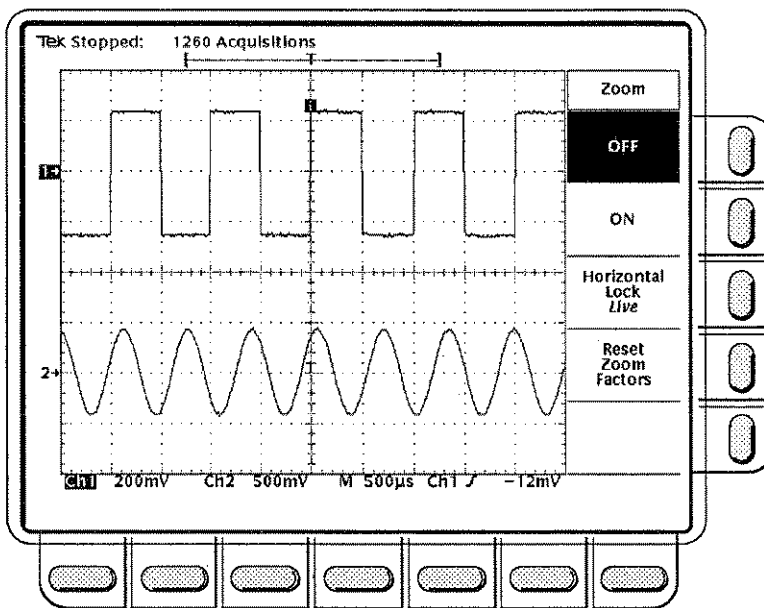

Figure 3-72: Zoom Menu
- Step 1:** Press the **ZOOM** button. The Zoom side menu will appear (Figure 3-72).